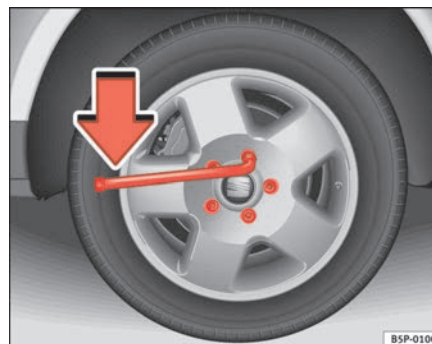

Fig. 170 Changing the wheel: loosen the wheel bolts
- Grasp the box spanner by the end turn it about one full turn to the **left** ⇒ fig. 170.